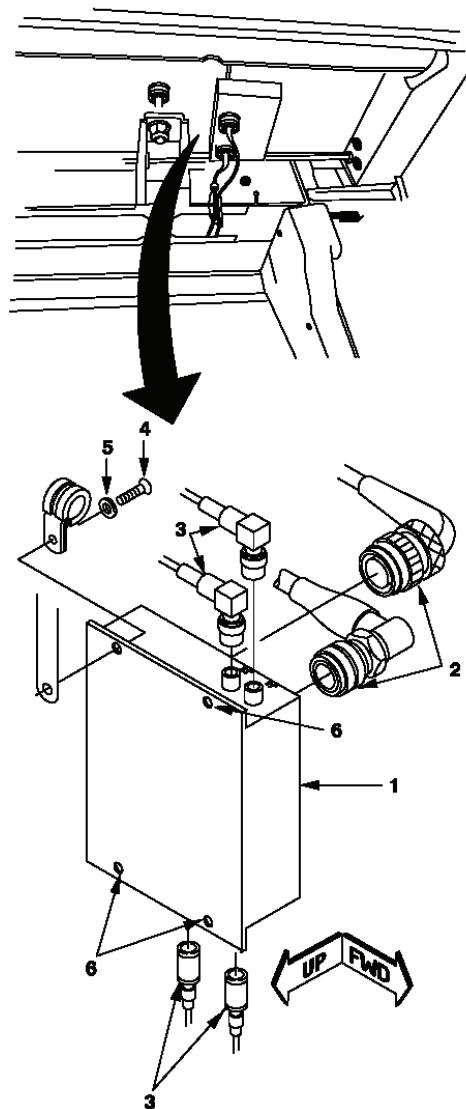

Figure 12
- (1) Open forward overhead circuit breaker panel.
- (2) Remove wires from cargo release switch and cap wires.
- (3) Using black paint or equivalent, cover cargo hook switch label on outside of circuit breaker panel.
- I. Remove FM Comparator. (See Figure 12.) (CDS2 aircraft)
- (1) Gain access to comparator (1) on inside roof of helicopter.
- (2) Disconnect two electrical connectors (2) and four coax connectors (3) from comparator (1).
- (3) While supporting comparator (1), remove one screw (4) and washer (5).
- (4) Loosen three captive screws (not shown) (6) and remove comparator (1) from helicopter.
- (5) If ARC201 radio is installed, remove stand-off coupler 2304A3.
- | (6) Replace connector (2304Z2P5) on cable (2ARC186-103A(7)) with new connector (part number M39012/17-0502, NSN 5935-01-046-2037).
- (7) Remaining coax cables will be removed from helicopter during removal of FM Antenna Coupler in step m.
- (8) Retain and secure electrical connectors.